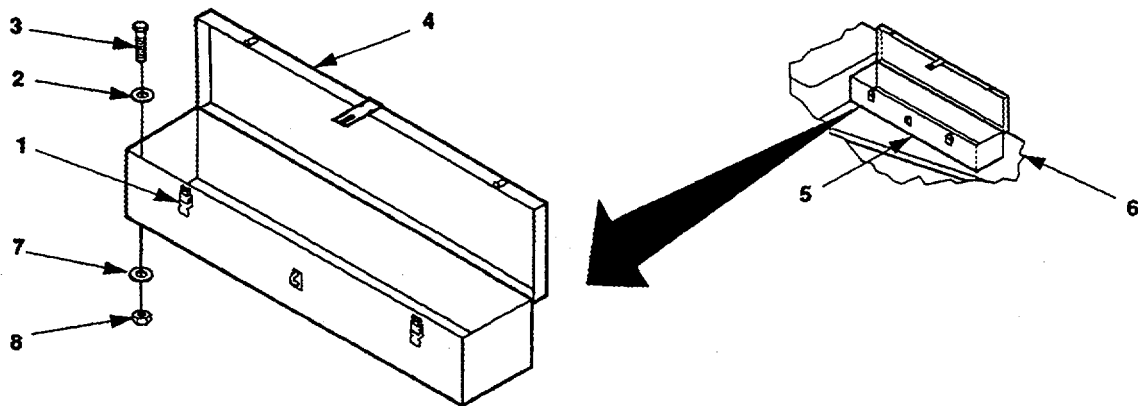

Figure 4-15. Accessory Box Replacement.
1. Release clamping catches (1, figure 4-15) and open accessory box cover (4).
2. Remove any stored accessories from accessory box (5).
3. Remove four self-locking nuts(8), eight flat washers (2 and 7), and four bolts (3) that secure accessory box (5) to trailer chassis (6).
4. Lift accessory box (5) off trailer chassis (6).